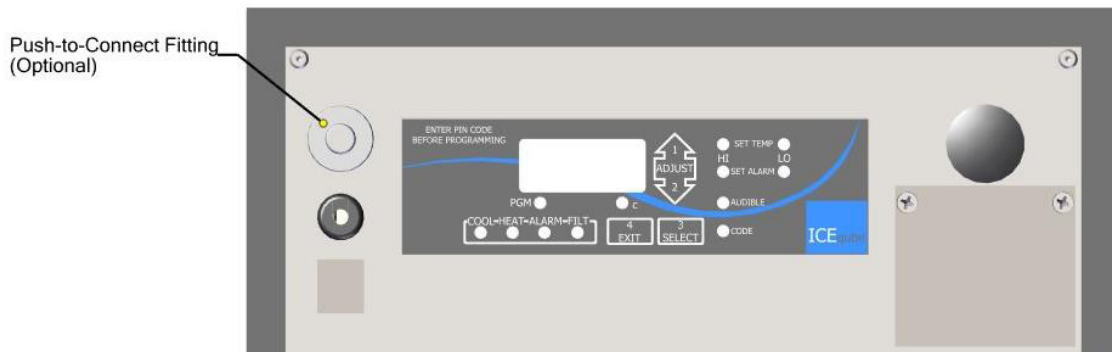

Figure 3: Push-to-Connect Fitting
6. The **OPTIONAL** purge connector is provided as a means to purge harmful gases out of the evaporator compartment. This ¼" (6.35MM) O.D. push-to-connect fitting is for convenience only and is **NOT REQUIRED** as a method of protection. All components are non-ignition source components and **DO NOT** require purge protection from any source. (See Figure 3: Push-to-Connect Fitting)